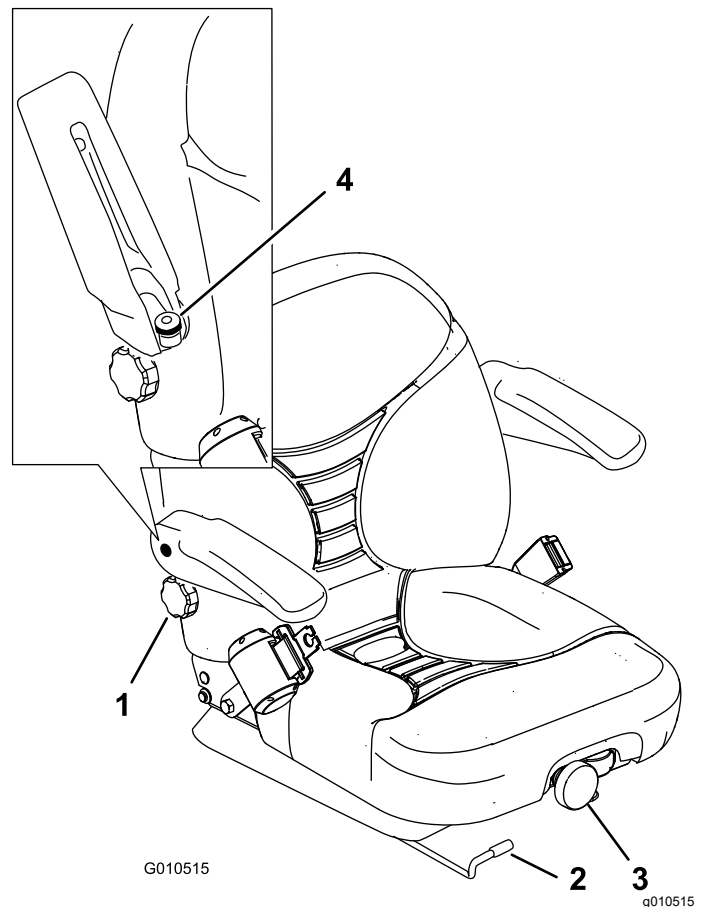

Figure 30
1. Move the lever sideways to unlock the seat (Figure 30).
To adjust it, turn the front knob in either direction to provide the best comfort (Figure 30).
To adjust it, turn the knob under the right armrest, in either direction, to provide the best comfort (Figure 30).
Raise the armrest and turn the knob, in either direction, to provide the best comfort (Figure 30).